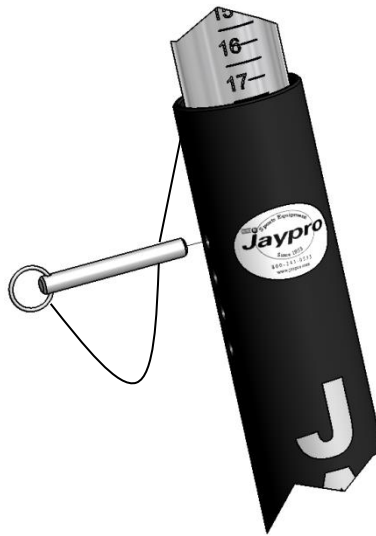

Figure 6-4: Set upright height.
8. Set the height of the uprights using the installed height adjust pin (Figure 6-4).